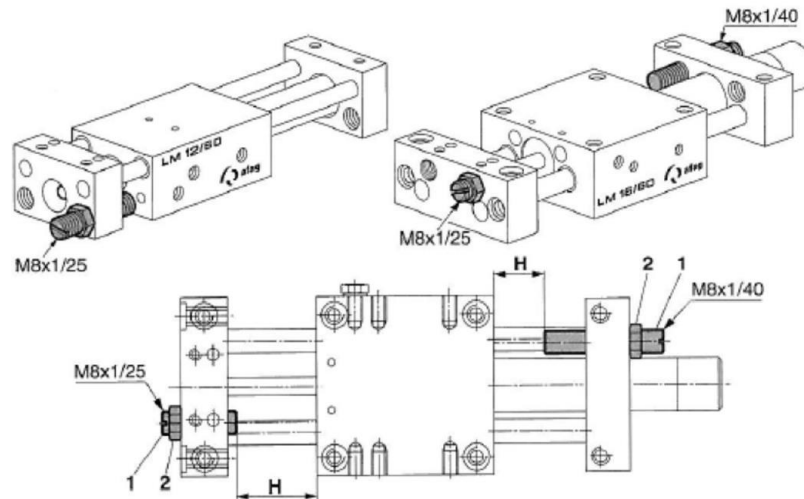

Fig. 19 Stroke adjustment with stop pin
1. Adjust the stroke (H) by adjusting the stop pin (Fig. 19, 1).
2. Fasten the stop pin with the lock nut (Fig. 19, 2).